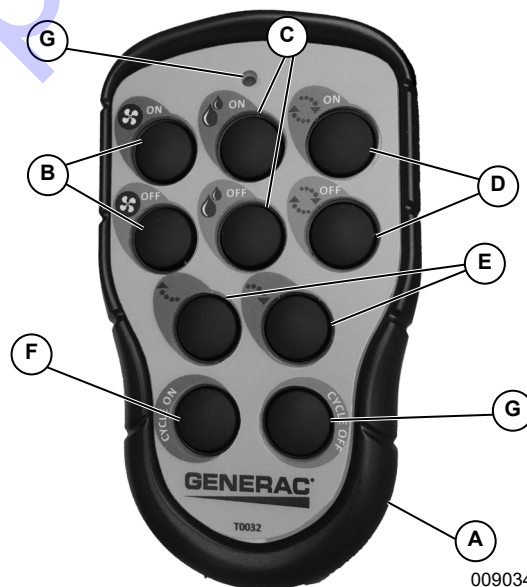

Figure 3-9. Transmitter
3. See *Figure 3-9*. Switch main on-off switch (A) on back of transmitter to ON.